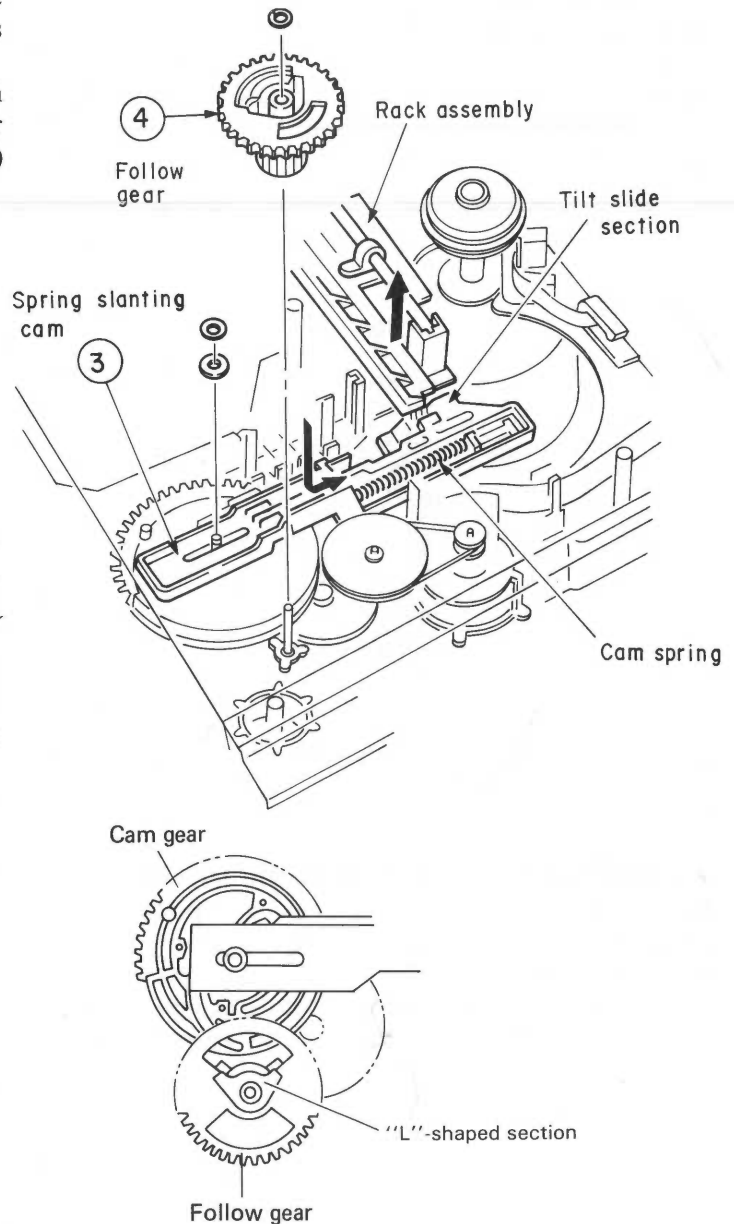

Fig. 7-12
- ③ Mount the Spring slanting cam by raising the rack assembly in the direction of the arrow so that the tilt slide section comes under the rack assembly. Then, mount the cam spring. (Fig. 7-12)
- ④ Insert the follow gear so that the "L"-shaped section of the follow gear comes to the end of the cam gear, as shown in Fig. 7-12.